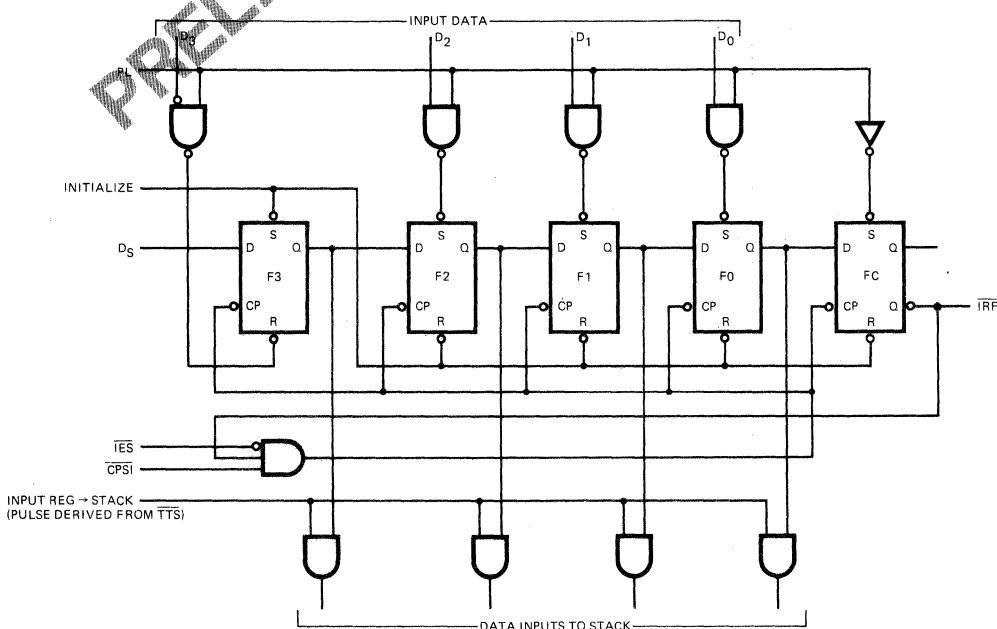

Fig. 1
Figure 1 is a conceptual logic diagram of the input section. As described later, this 5-bit register is initialized by setting the F3 flip-flop and resetting the other flip-flops. The Q output of the last flip-flop (FC) is brought out as the "Input Register Full" output (IRF). After initialization this output is HIGH.